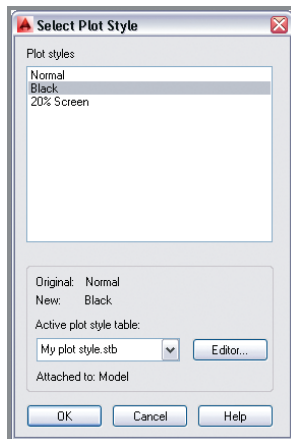

FIGURE 14.17 Selecting a plot style to assign to a layer
2. Type **LA** (for Layer), and press Enter. Right-click any one of the layer names in the Layer Properties Manager that appears, and choose **Select All** from the context menu. Click the word **Normal** in the Plot Style column. The plot style table you created earlier (My_plot_style.stb) is selected. Choose **Black** in the Select Plot Style dialog box (see Figure 14.17). Click OK. Now all the layers will plot in black.